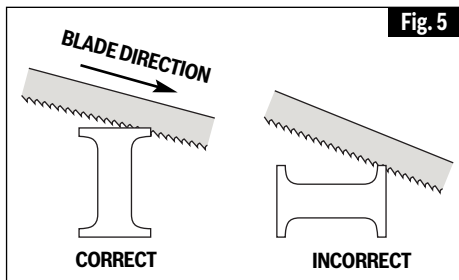

Fig. 5
2. Start cutting on a surface where the greatest number of teeth will be in contact with the workpiece at one time (Fig. 5).